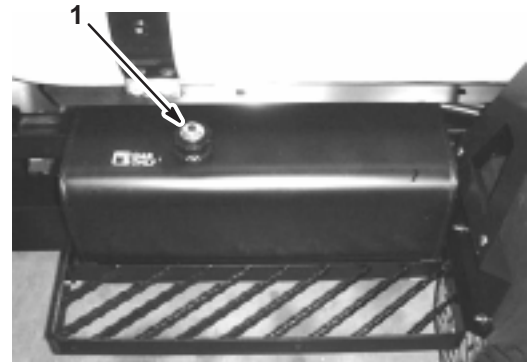

Figure 6
2. Clean the area around the fuel tank cap and remove it (Fig. 6).